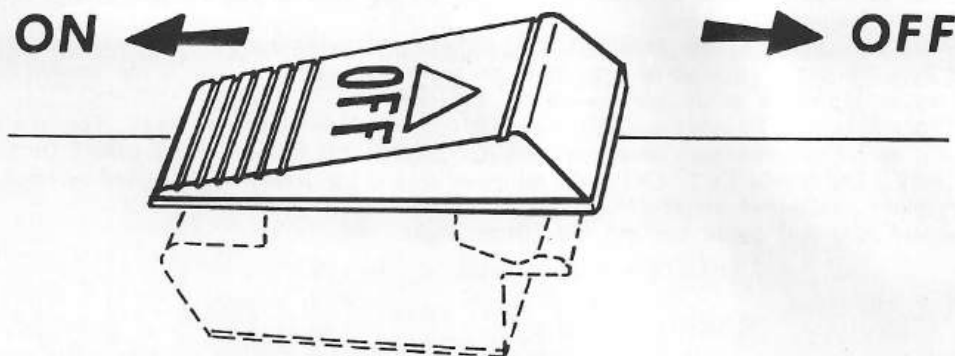

FIG. 4
1. Push ignition switch forward to shut off ignition. Refer to figure 4.